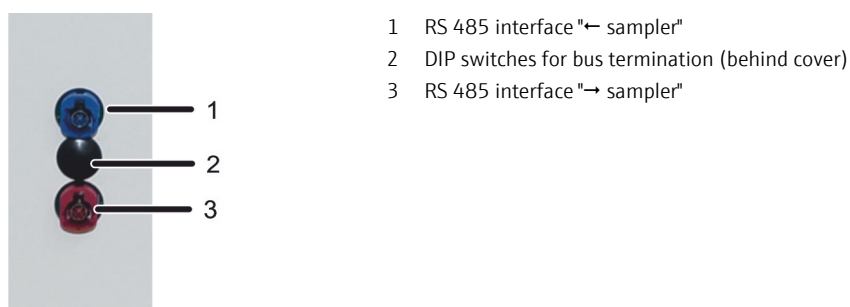

Figure 14 RS 485 interfaces and DIP switches
1. Connect the blue plug of the interface cable to the blue socket on the backplate of the gas sampling system ("← sampler", 1 in Figure 14).
1. Connect the blue plug of the interface cable to the blue socket on the backplate of the gas sampling system ("← sampler", 1 in Figure 14). Connect the red plug of the cable to the interface "Sampler" on the backplate of the compEAct.
2. Connect a second interface cable to the red socket on the backplate of the gas sampling system ("→ sampler", 3 in Figure 14). Connect the blue plug of the interface cable to the blue plug on the backplate of the next sample feeding module in the row.